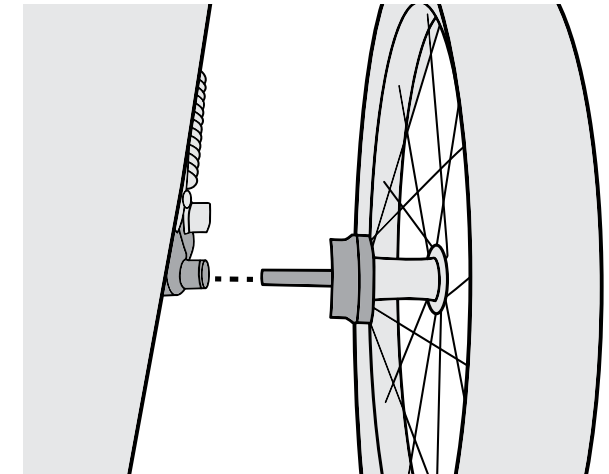

Figure 7
2. Insert wheel axle into axle receiver, and then release the button (Figure 7). Pull firmly on wheel to confirm the axle is fully engaged.